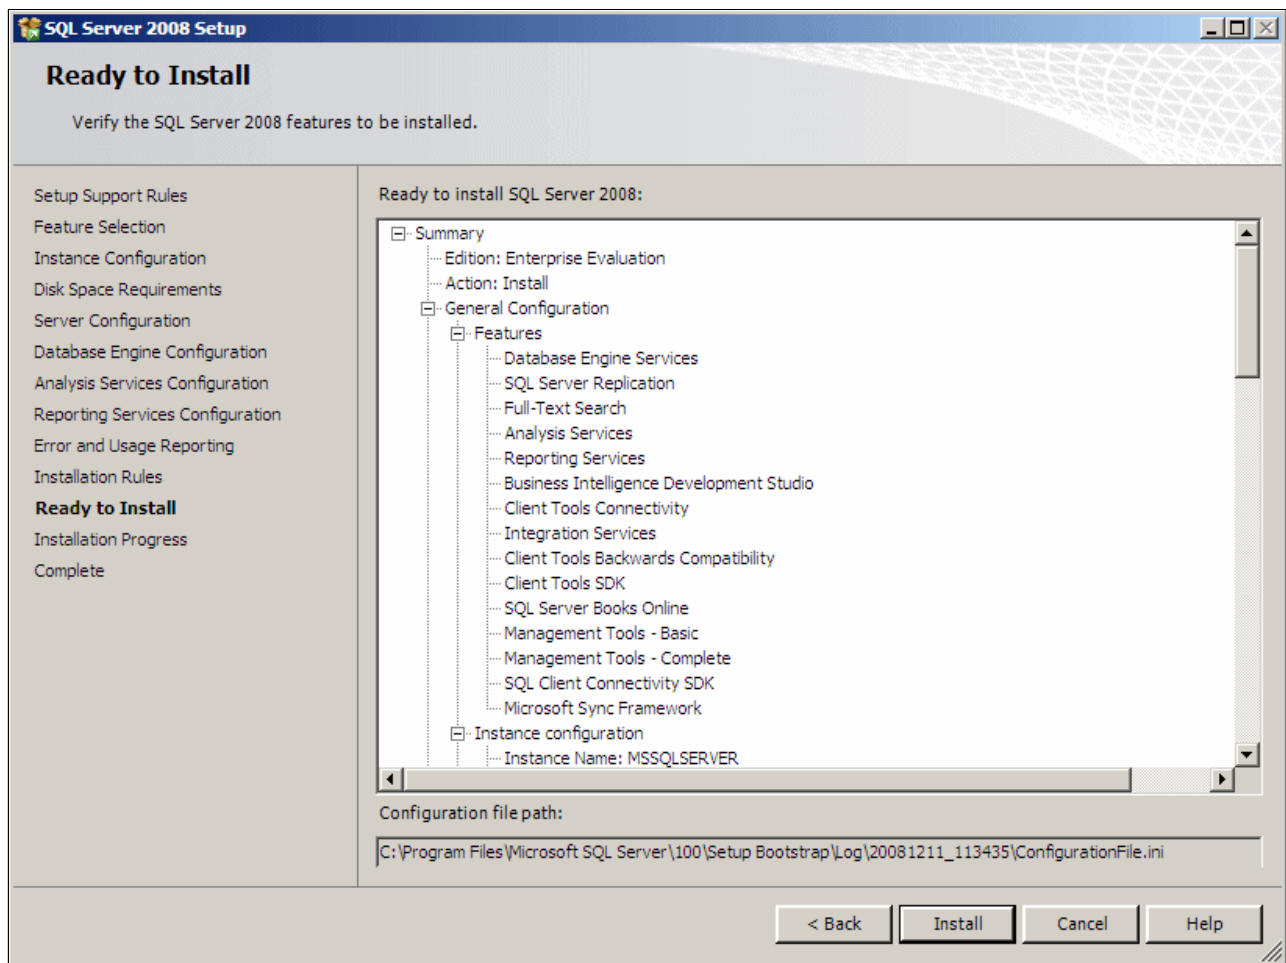

Figure 6-31 Ready to install the selected features
15. The “Ready to Install” panel (Figure 6-31) displays a list of the features to be installed. This should list the same features you selected earlier. Confirm the required features. Click **Install**.